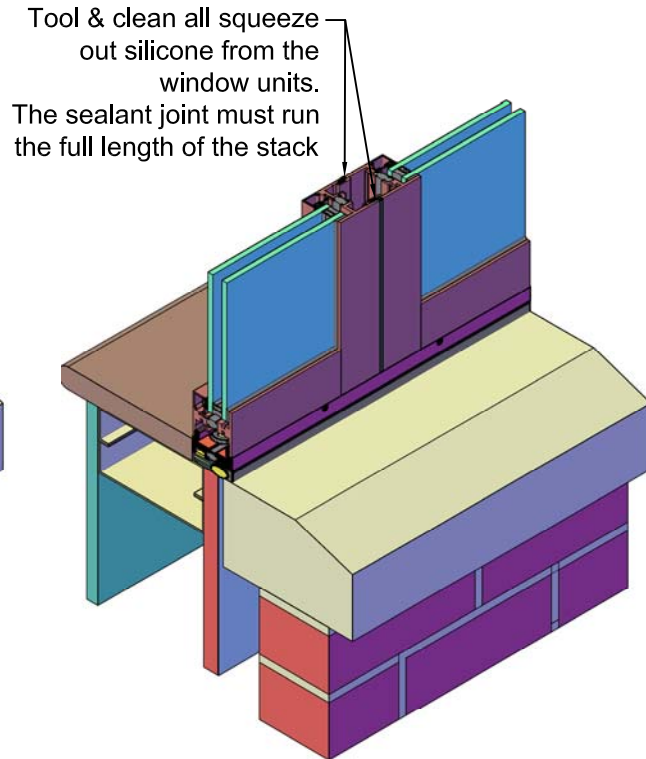

Fig. 2
2) Position the second window unit in place. Tool & clean all squeeze out silicone from the window units. The sealant joint must run the full length of the stack. See Fig. 2